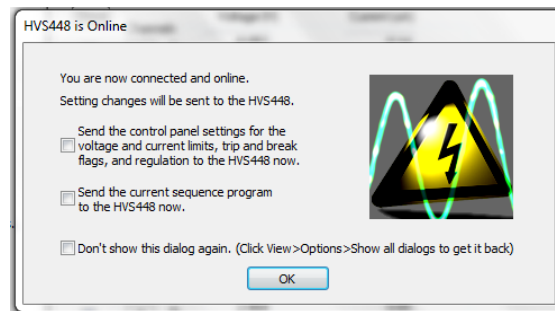

Figure 7. HVS448 is Online Dialog Box.
- a. If the HVS448 is brought online after the program is written and saved, you will see the **HVS is Online** dialog box (*Figure 7*). Check the **Send the current sequence program to the HVS448 now** box.